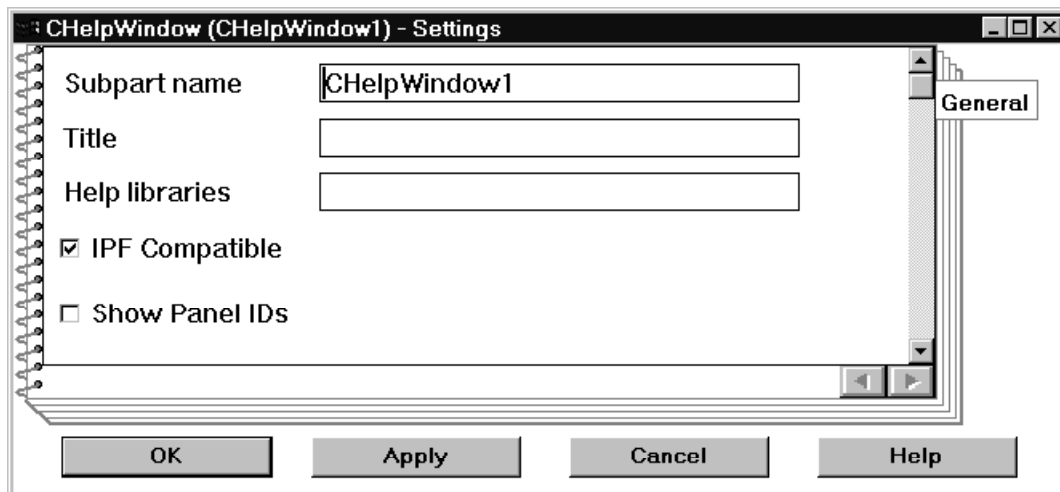

Figure 85. The help window's settings notebook
3. Open the settings notebook for the CHelpWindow part. See “Changing settings for a part” on page 129 if you need information on how to do this. It is similar to Figure 85.